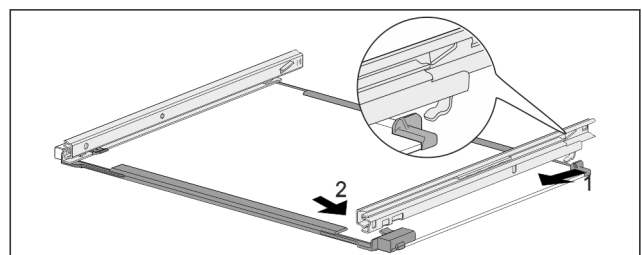

Fig. 184 Glass shelf with rails
- ▶ Hook in rail at the back. Fig. 184 (1)
- ▶ Hook in rail at the front. Fig. 184 (2)